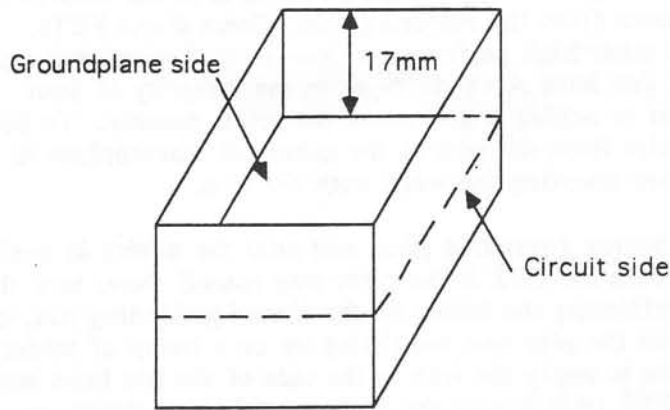

Fig 1. Location of PCB in box
3. Locate the PCB into its box and trim to a neat fit if needed, particularly in the corners of the box where there are joints. The PCB material will cut quite easily with a sharp scalpel blade and straight-edge. Locate the groundplane 17 +/- 0.5mm from the top of the open box and mark its position. (see Fig1). Locate and mark the SMA socket centre-pin clearance holes. Drill the holes and de-burr. Locate, drill and de-burr holes for any feedthrough components needed for power supplies. Tack-solder the corner seams of the box and make sure that the lids are a neat fit. Adjust as necessary. Check also that the board will fit neatly. When satisfied, solder the corner seams fully. Solder the SMA connectors and the feedthrough in position.